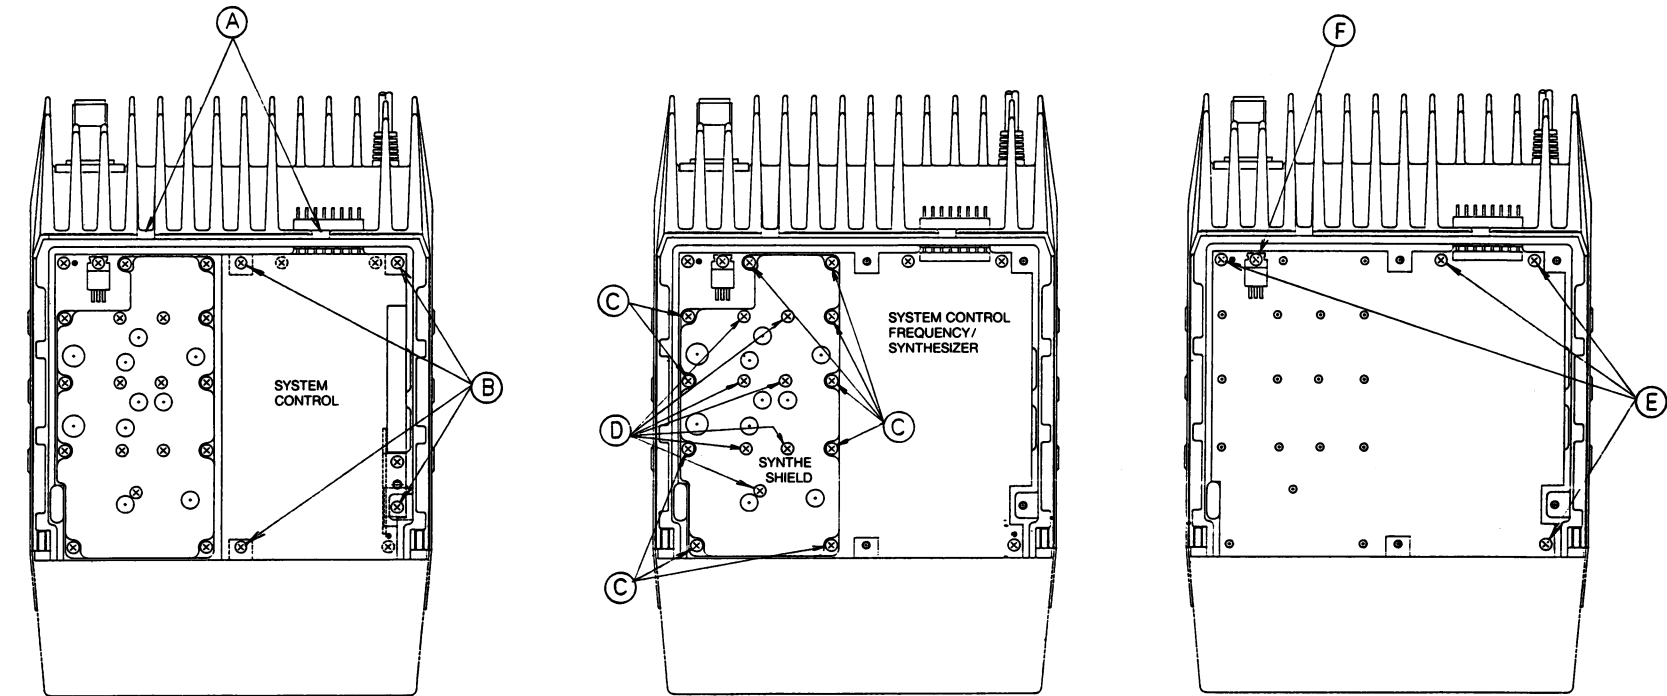

FIGURE 2 - Disassembly Procedure (Top View)
- 1. Loosen the two (2) screws (A) securing the top cover (refer to Figure 2).
- 2. Remove the four (4) screws (B) securing the System Control 2 Board to the frame and carefully lift up and remove the board.
- 1. Loosen the screws (A) and (G) securing the top and bottom covers (refer to Figures 2 & 3).
- 2. Disconnect the interconnecting cable. Remove the seven (7) screws (I) securing the transmitter shield and the antenna shield.
- 3. Remove the two (2) screws (J) connecting the power supply cable to the Transmitter Board and turn the cable stopper mounted on the rear of the frame assembly 90 degrees. Lift up the cable stopper up and remove the power supply cable.
- 4. Remove the screws (L) securing power transistors TR3 and TR4.
- 5. Remove the five (5) screws (M) securing the transmitter board. Carefully lift up and remove the board.